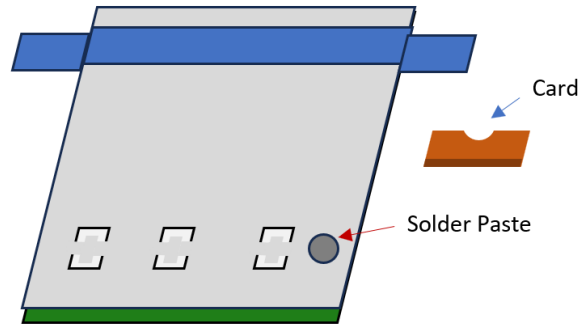

Figure 2: Using a solder paste and a plastic card applying to a PCB.
- 3.6. Using either a jar of solder-paste or a solder paste syringe, place or dispense a pea-sized amount of solder paste on the stencil, above the row of holes you wish to apply the solder paste to as shown in Figure 2.